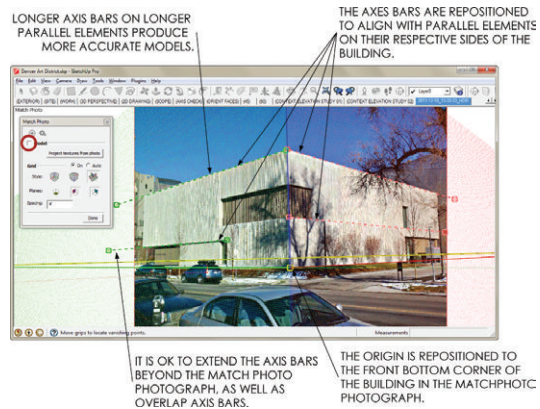

Figure 16.12 The Match Photo axis bars and origin aligned with the Match Photo photograph
- Position the Match Photo origin at an appropriate starting point for sketching (Figure 16.12). This will be at the same front-bottom corner you positioned the axes at in the beginning of the exercise.